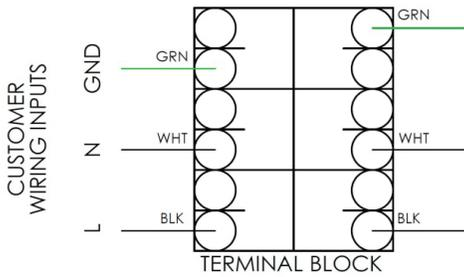

Figure 2
2. All components in the fixture are prewired so only line in, neutral and ground need to be connected in the fixture using the terminal block using methods that comply with all applicable codes. Insert wires into terminal block by pressing down on tabs. Be sure wires are spaced as shown in Figure 2.